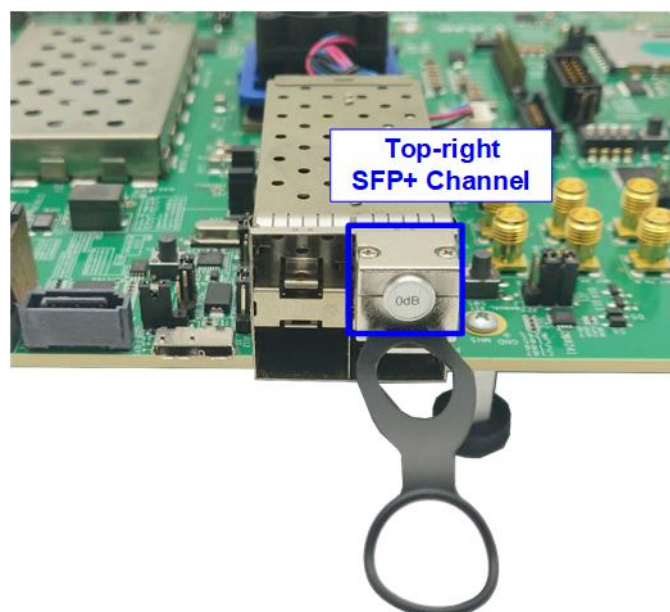

Figure 2-2 Loopback cable on ZCU102 board
- 4) (Optional for running external loopback mode) Connect SFP+ Loopback cable at the top-right SFP+ channel, as shown in Figure 2-2.